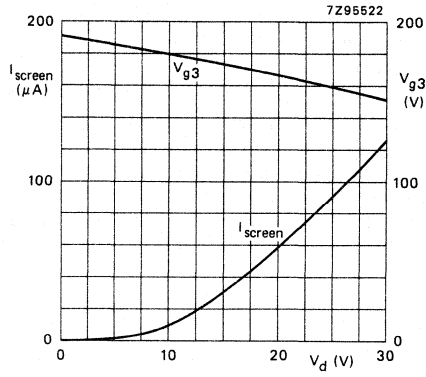

Fig. 5 Screen current ( $I_{screen}$ ) and focusing voltage ( $V_{g3}$ ) as a function of grid drive voltage ( $V_d$ ); typical curves.
5. An actual focus range of 30 V should be provided on the front panel.  $V_{g_3}$  decreases with increasing grid drive (see also Fig. 5).
6. Intensity control on the front panel should be limited to the maximum useful screen current (approx. 50  $\mu$ A; see also Fig. 5). It is to be adjusted either by the grid drive (up to 22 V) or for maximum acceptable line width. The corresponding cathode current or  $I_{g_{2,g4}}$  (up to 500  $\mu$ A) depend on the cut-off voltage and cannot be used for control settings.